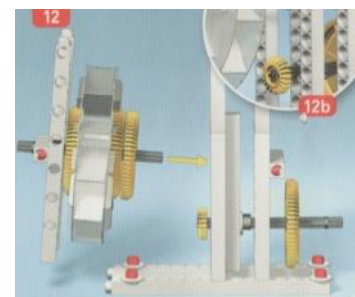

Figure 5: Water Wheel Assembly Cont.
**Use Figure 5 for steps 14-17.**